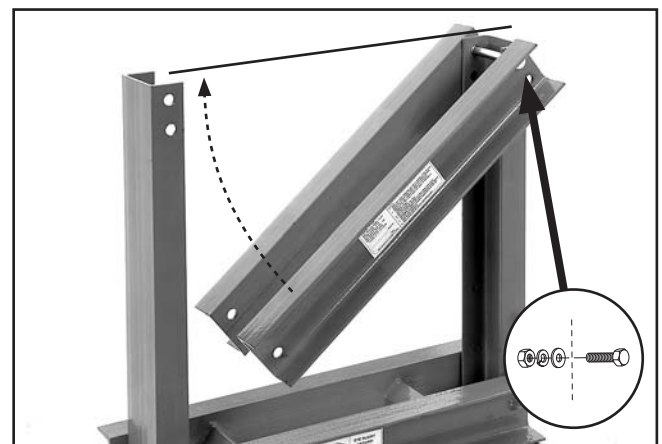

Figure 9. Upper U-beam installation.
6. Install the upper U-beams with one M12-1.75 x 110 hex bolt and finger-tighten with a 12mm flat washer, lock washer, and hex nut, as shown in **Figure 9**.